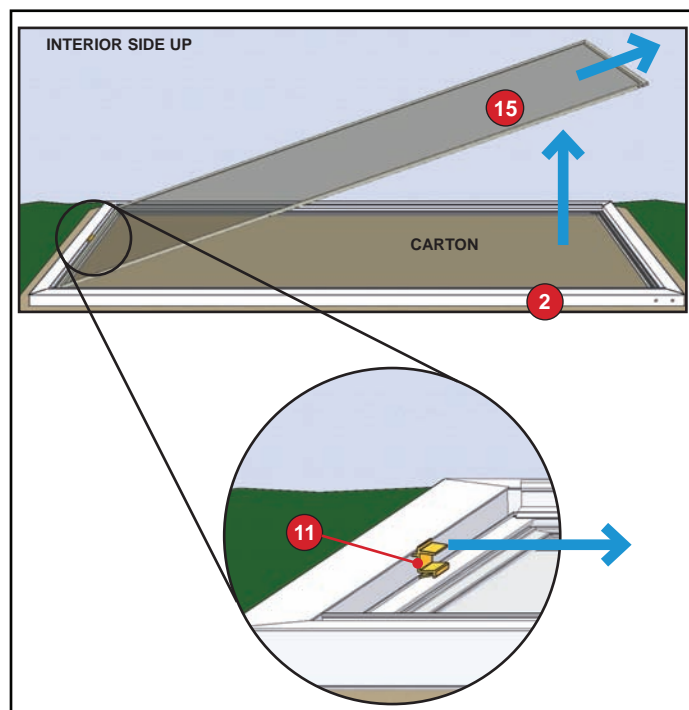

Figure 5
2. Remove the insect screen by lifting it up and then away from the shipping clip (Figure 5).